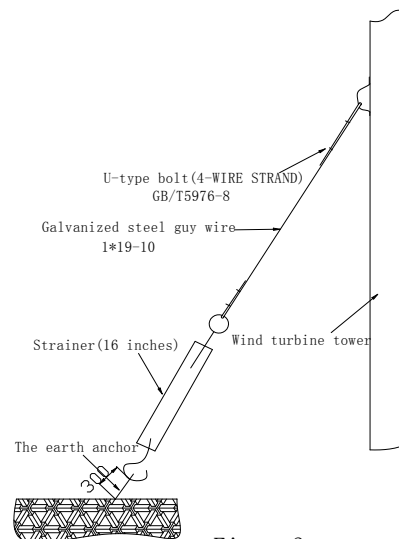

Figure3
2. The installation sequence of the wind turbines can follow the steps as illustrated in figure3.
Figure 3 wind turbine decomposition